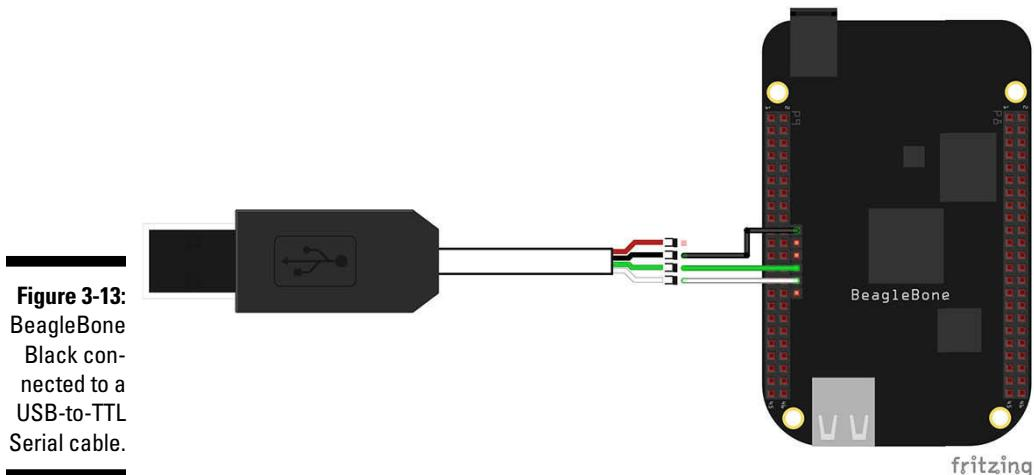

Figure 3-13:
- 2. Connect the wires to the J1 headers on your BeagleBone Black as shown in Figure 3-13:**
4. Connect the wires to J1 headers on your BeagleBone Black as shown in Figure 3-13, earlier in this chapter: